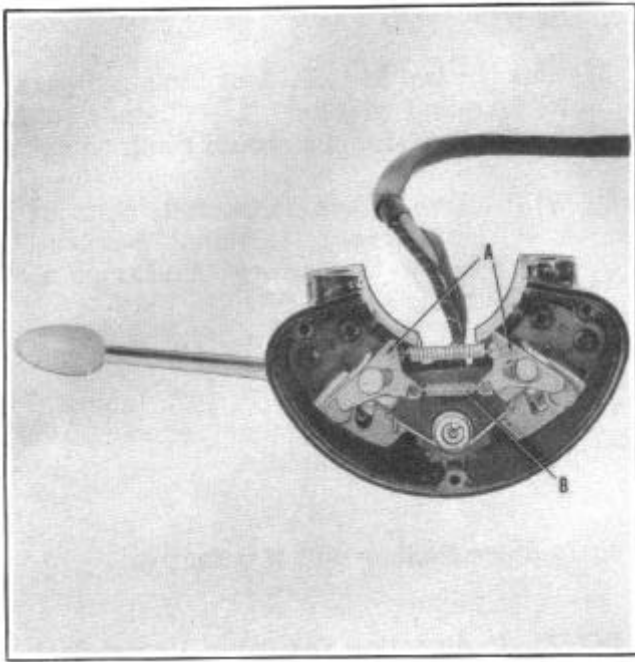

FIGURE 34
1. Remove switch case cover and check cancelling pawls (A), Figure 34, to see that they slide freely. Apply a small amount of vaseline to slot in each pawl.
2. Move switch lever up and turn steering wheel $1/2$ turn right. Cancelling pin in steering wheel hub should strike and pass left pawl without moving switch. The pawl spring (B) should return the pawl to extended position when the pin clears.